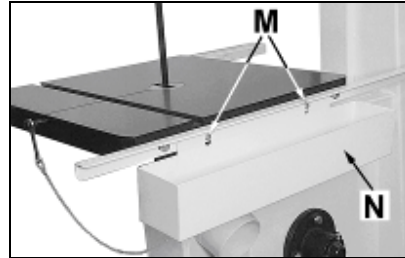

Fig 6
Insert 2 pan head screws (M, Fig 6) to the support rail and mount the chip tray (N) as shown in Fig 6.